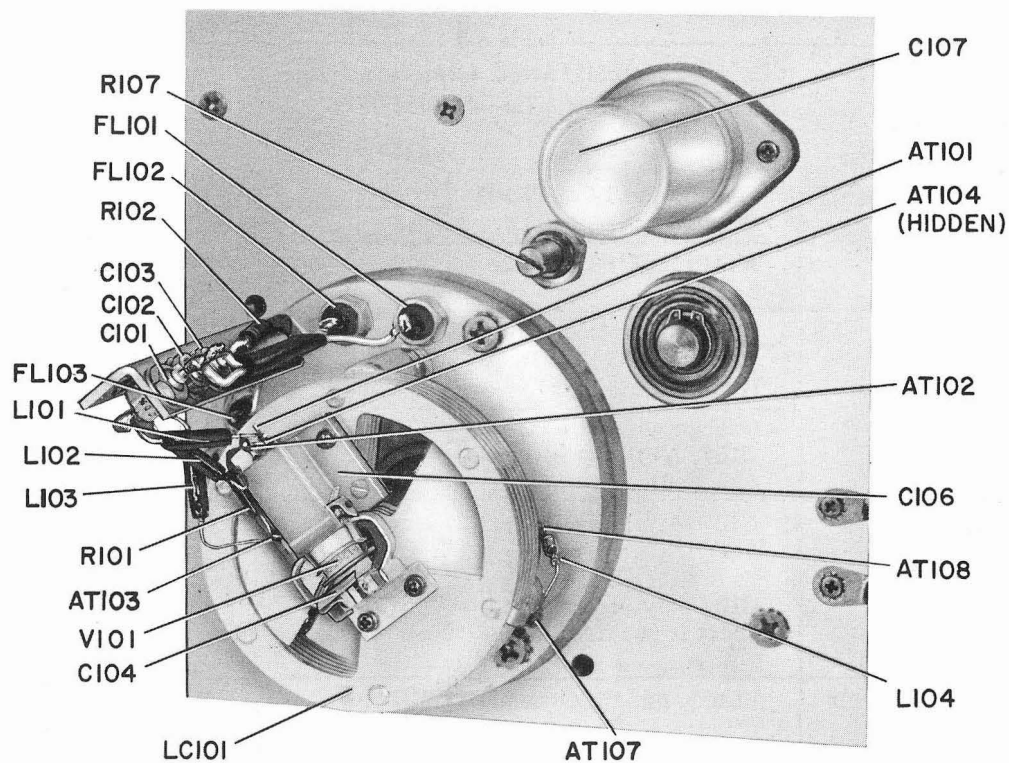

Figure 6-3. Interior rear view of Type 1362 Oscillator with shield cover removed.
If the 1362 Oscillator performs outside of specification, as determined by use of paragraph 6.3, the procedures below can be used to isolate the trouble to a defective assembly or part. Suggestions for trouble analysis are given in Tables 6-2 and 6-3. The former is based on operating parameters, the latter on cold resistances. (Refer to Figures 6-3 and 6-4 and to the schematic diagram, Figure 6-8, at the end of the book.) Instructions for adjustment and repair are given in subsequent paragraphs of Section 6.
g. Connect a 0-50 milliammeter at the MOD jack; apply power using a 1267 Power Supply; set the dial to 920 MHz; connect a 50-ohm load to the output connector; push the attenuator in; allow 5 minutes for warm-up. Adjust R107 with a screwdriver (refer to Figure 6-3) for 30 mA  $\pm$  3 mA plate current. (The current may be set higher to provide more rf power output at the expense of reduced tube life; conversely, for economy, refer to paragraph 6.9.)